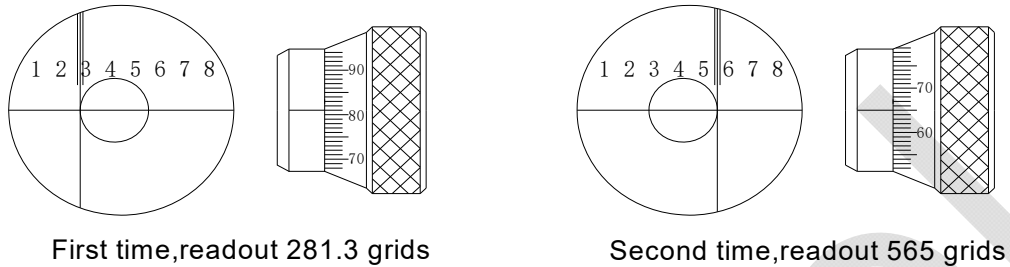

Fig7
3.5 Example: by means of 2.5^x Objective, ball indenter ϕ 2.5 mm, test force 1839N(187.5 Kg), measure out the Brinell hardness value (Fig. 7)